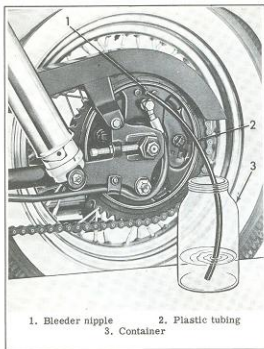

Figure 2G-6. Bleeding Hydraulic Brake System
**DISASSEMBLING BRAKE MASTER CYLINDER (Fig. 2G-5)**
#### INSPECTION AND SERVICING (Fig. 2G-5)